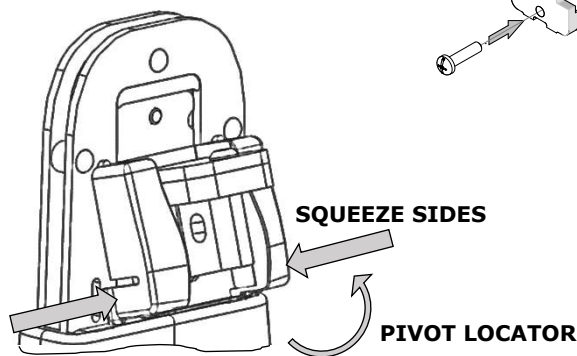

Figure 7
3. Squeeze the sides of the locator frame and pivot the locator away from the tool. See Figure 7. Set the locator aside.